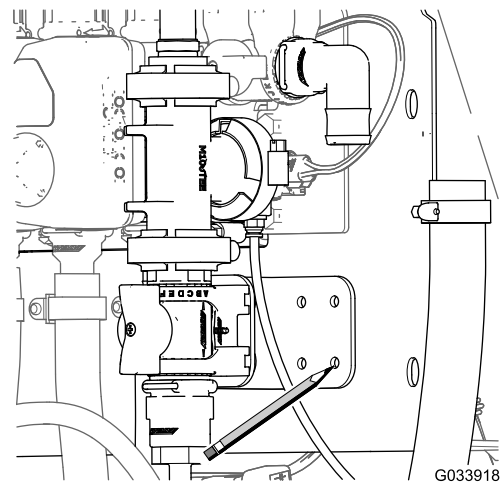

Figure 16
3. Using the control-valve bracket as a template, mark the location of the holes in the bracket onto the surface of the manifold mount (Figure 16).